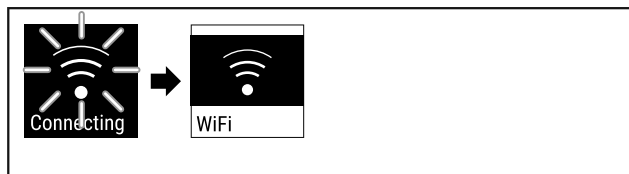

Fig. 86
- Connection is established (see Fig. 86).